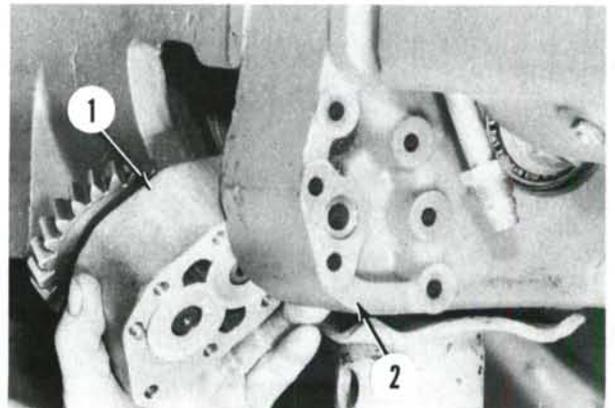

Fig. 191—Power shift hydraulic pump (1) is mounted on lower right corner of range gearbox cover (2). Hydraulic manifold mounts on front side of the cover.
**257.** The power shift hydraulic pump is mounted on lower right-hand corner of range gearbox front cover (Fig. 191). The pump is gear driven from reverse gear of range transmission.